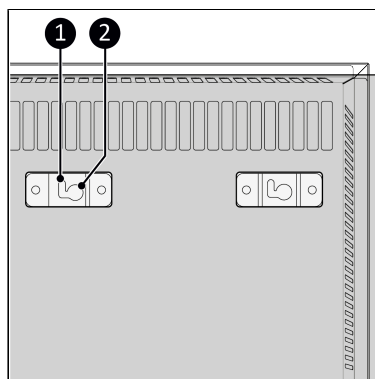

Figure 28.
10. Place the bracket holes (Figure 28, pos. 2) over the wall screws.
11. Slide the device to the left and let the device drop into the opening of the brackets (Figure 28, pos. 1).